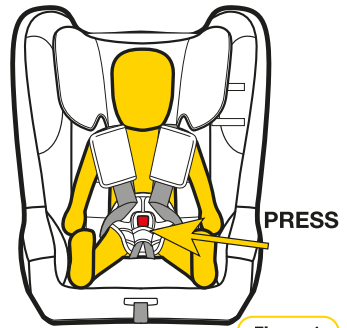

Figure 1
Step 1: To release your child from the restraint simply press the red button on the harness buckle and carefully remove your child from the restraint (refer Figure 1).